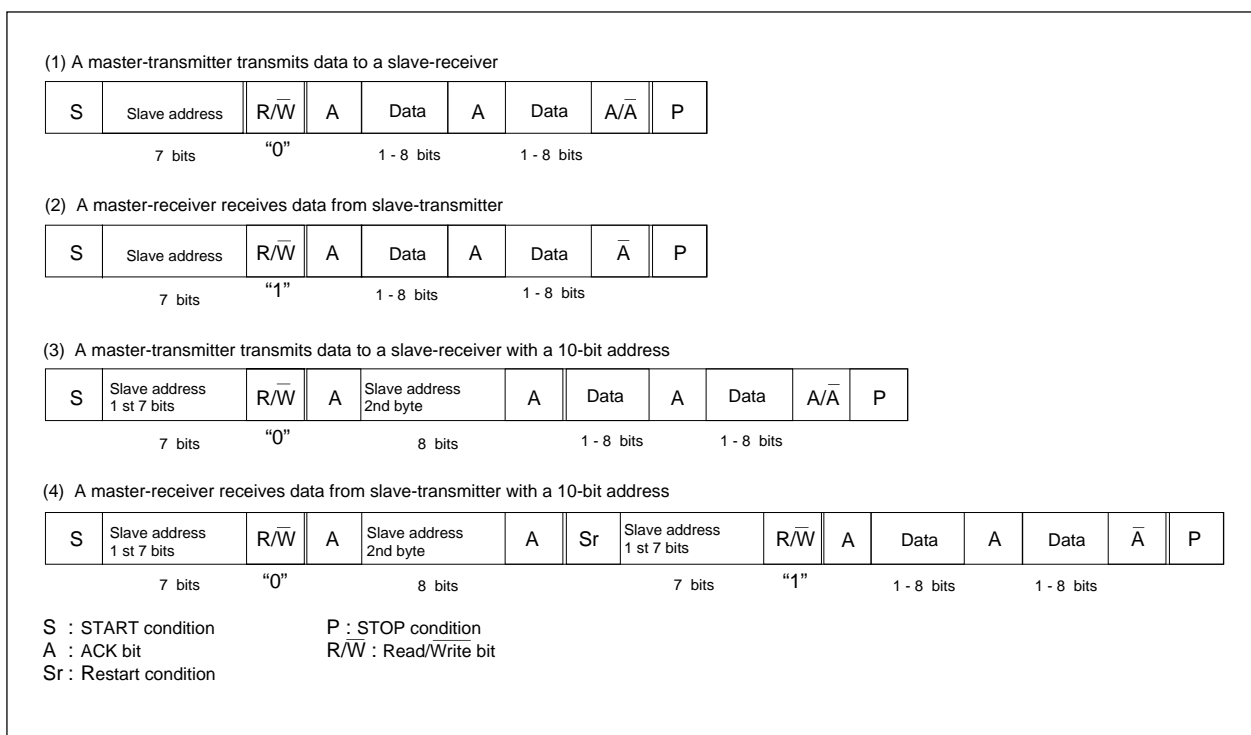

Fig.GC-21 Address data communication format
(1) 7-bit addressing format
To adapt the 7-bit addressing format, set the DBIT SAD bit of the I²C control register 0 (address 0323₁₆,0333₁₆) to "0". The first 7-bit address data transmitted from the master is compared with the high-order 7-bit slave address stored in the I²C address register (address 0322₁₆,0332₁₆). At the time of this comparison, address comparison of the RBW bit of the I²C address register (address 0322₁₆,0332₁₆) is not performed. For the data transmission format when the 7-bit addressing format is selected, refer to Fig.GC-21 (1) and (2).
(2) 10-bit addressing format
When the first-byte address data agree with the slave address, the AAS bit of the I²C status register (address 0328₁₆,0338₁₆) is set to "1". After the second-byte address data is stored into the I²C data shift register (address 320₁₆,330₁₆), perform an address comparison between the second-byte data and the slave address by software. When the address data of the 2 bytes agree with the slave address, write "0" to the ACKBIT to I²C clock control register, to return an ACK. When the address data of the 2 bytes do not agree with the slave address, it does not return an ACK so that makes the finish of the communication by writing "1" to the ACKBIT. If the address data agree with each other, set the RBW bit of the I²C address register (address 0322₁₆,0332₁₆) to "1" by software. This processing can make the 7-bit slave address and R/ \overline{W} data agree, which are received after a RESTART condition is detected, with the value of the I²C address register (address 0322₁₆,0332₁₆). For the data transmission format when the 10-bit addressing format is selected, refer to Fig.GC-21(3) and (4).